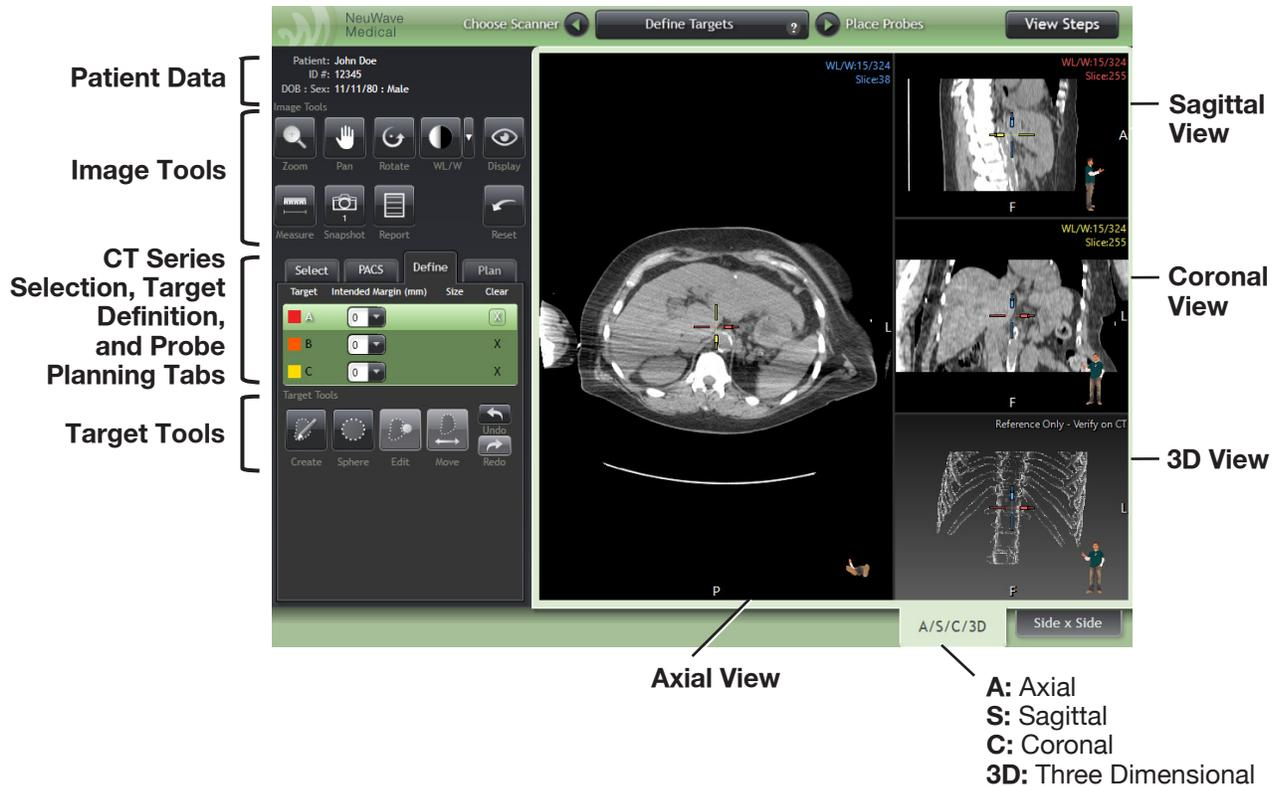
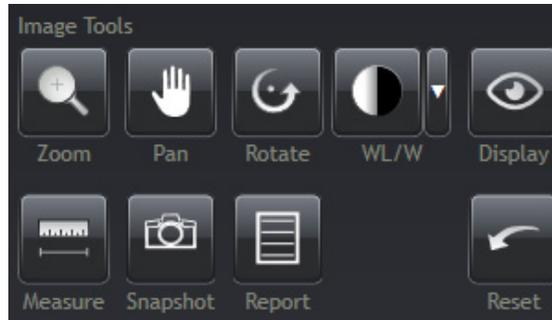

Figure A-1: Define Targets screen displaying Image Views panels on the right side of the screen, and Image Tools and Target Tools panels on the left side.
Figure A-3: Image Tools panel.
ABLATE-IQ offers multiple anatomical views of an image series. Four views appear by default, and the edges of each view display letters that indicate the orientation of the patient. **Image Views** (planes) and **Orientations** are labeled as follows throughout the **ABLATE-IQ Software** (Figure A-1).
The lower-right corner of each of the 4 image views displays a human Body Orientation Diagram (BOD), which shows the position of the patient's body with respect to the image slice shown. In the 3D View, the BOD shows the position of the patient's body with respect to the constructed image (Figure A-1).
Radiologic data appears in the upper-right corner of each 2D View (Figure A-1). When you use a program tool within the image and inside the bore of the CT scanner, four lines of radiologic data are shown:
The Image Tools panel is located in the left mid panel and includes a series of tools to manipulate the size, position and luminosity of image slices displayed in the Image Views panels (Figure A-1 and Figure A-3). **Report** and **Reset** buttons are also located in this panel.
In the Image Tools panel on the left side of the screen (Figure A-3), click the **Zoom** tool and then move the mouse pointer to a 2D or 3D Image View.
1. In the Image Tools panel on the left side of the screen (Figure A-1), click the **Pan** tool and then move the mouse pointer to a 2D or 3D image view.
1. In the Image Tools panel on the left side of the screen (Figure A-1), click the **WL/W** tool (Figure A-3) and then move the mouse pointer to a 2D Image View. The X- and Y-axis values update in all three 2D Image Views and the mapping of HU density values to grayscale pixels is modified to enhance image features.
1. In the Image Tools panel on the left side of the screen (Figure A-1), click the **Measure** tool and then move the mouse pointer to any 2D View. The **Measure** tool is not available in the 3D View.
The **Report** tool can be accessed from the Image Tools panel (Figure A-3) and the **Steps** menu (upper-right corner of Figure A-1). Clicking on the **Report** tool displays a NEUWAVE System procedure report containing all information related to the procedure performed (see the *Detailed Report Information (Premium)* Section in *Appendix C*). Clicking the **Submit** button sends the report to the storage PACS. (The series number for the report in the PACS will be 53705.)